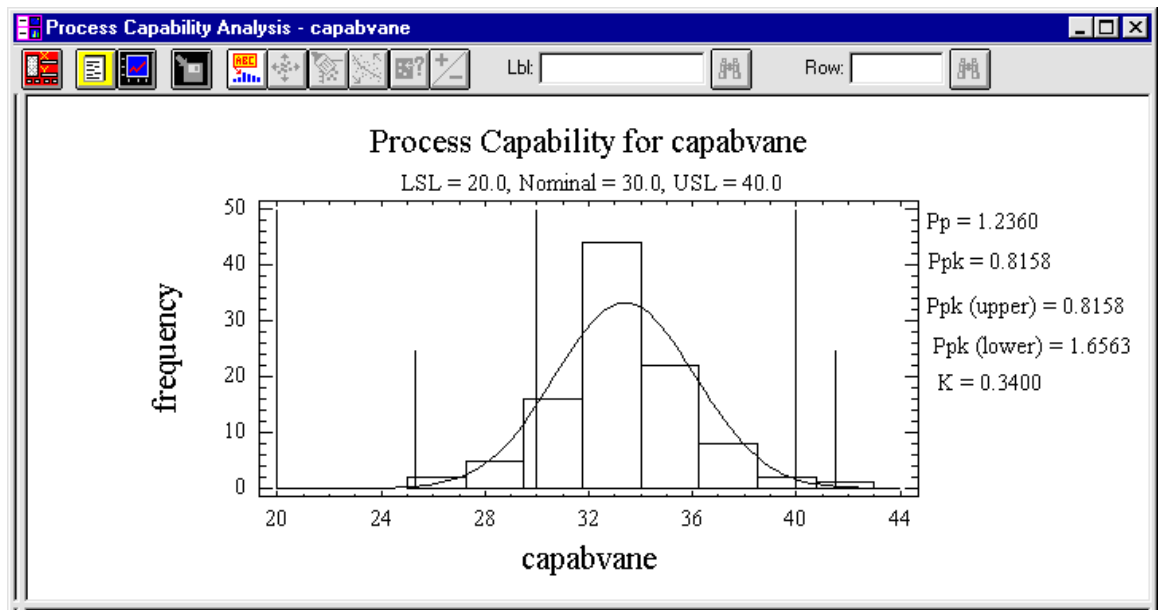

Figure 1-14. Capability Plot for Verifying Data
1. Click the Graphical Options button to display the dialog box, then click the Capability Plot option, and OK to display the plot shown in Figure 1-14. Maximize the plot.